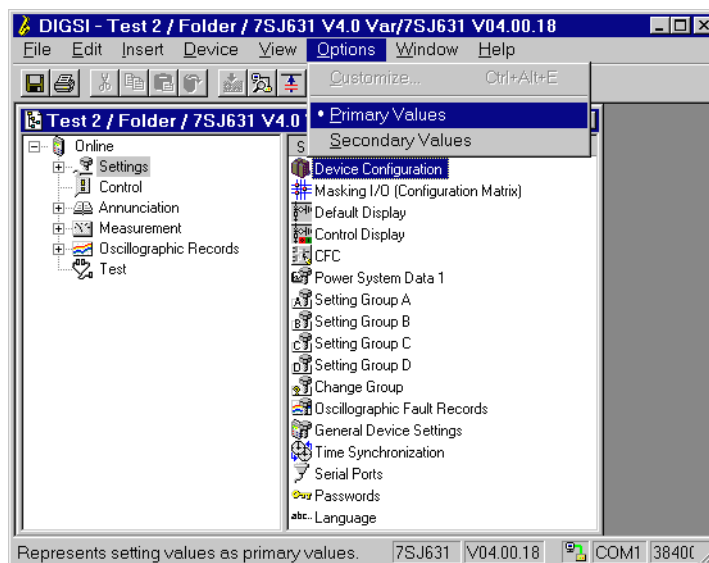

Figure 6-7 Selection of primary or secondary value entry — example
- ❑ Click on **Options** in the menu bar, as shown in Figure 6-7.